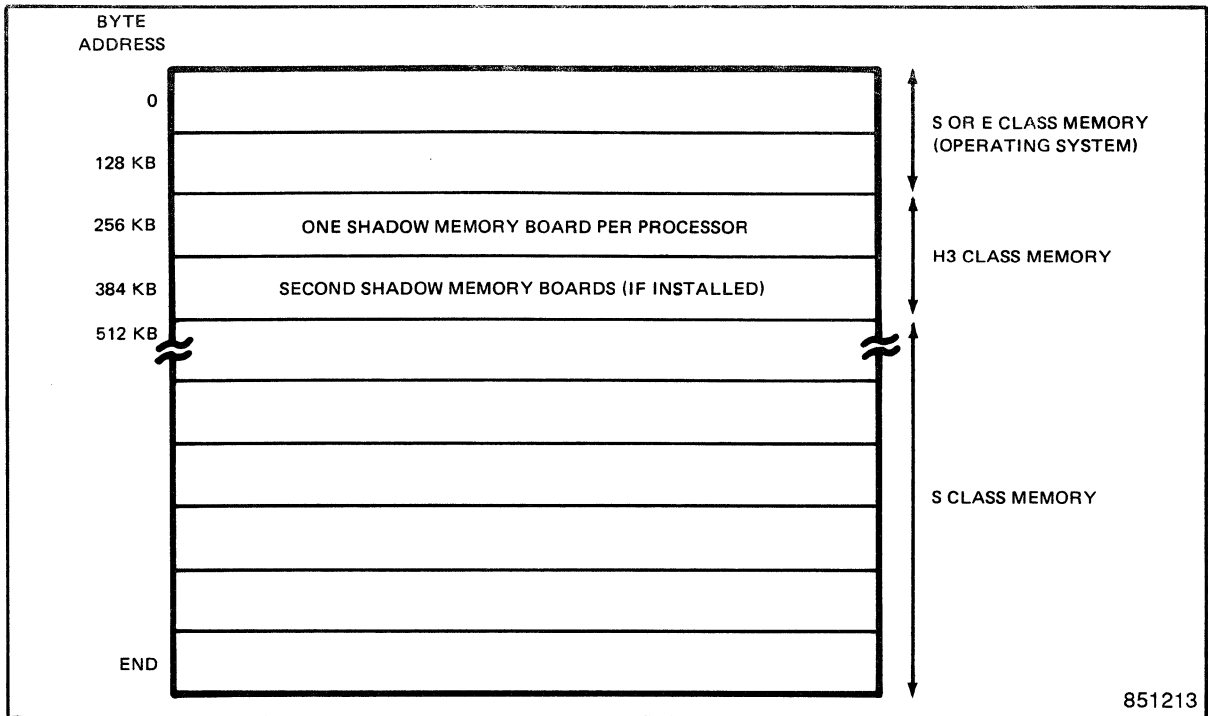

Figure 10-2. Shadow Memory Configuration with Two Processors and a Single Region of Shadow Memory
- two processors (IPU and CPU) with a single region of shadow memory. The regions must have the same starting and ending addresses and be shadowed by an equal number of shadow memory boards on both processors. See Figure 10-2.